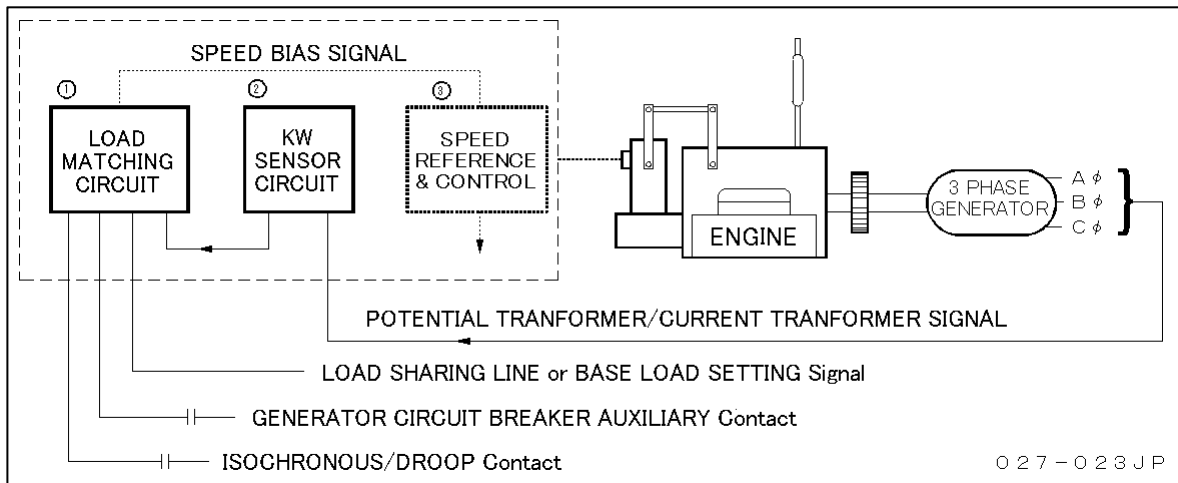

Figure 2-4. Isochronous Load Control System
The isochronous load control system, shown in Figure 2-4, consists of Load matching circuit (1), kW sensor circuitry (2) and Speed reference and control circuitry (3).